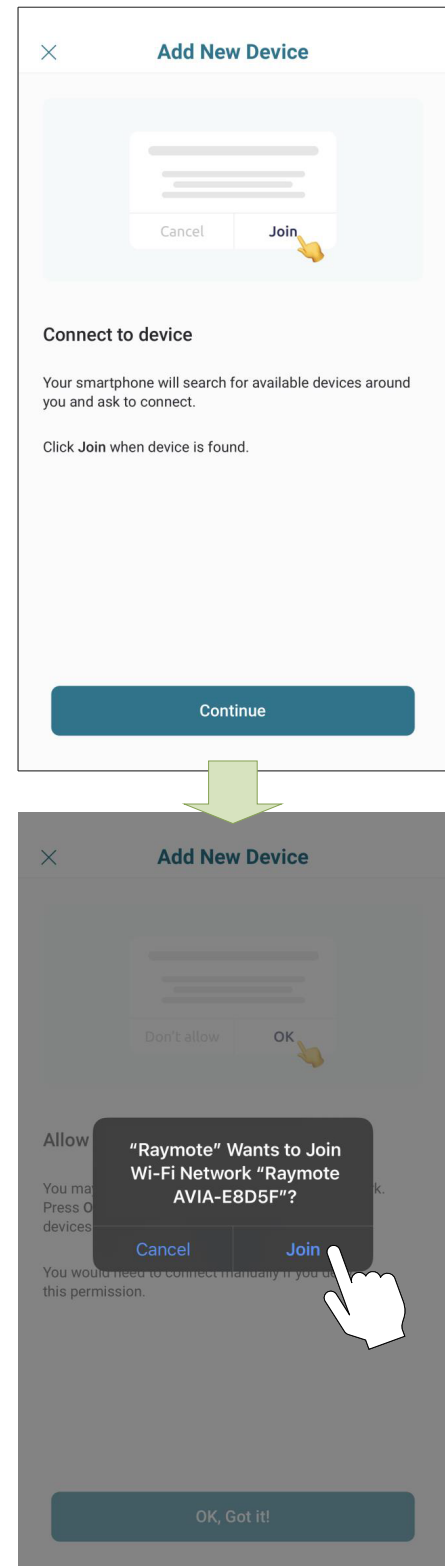

Figure 85. Connecting with iPhone
4. **In iPhone:** Raymote app will start to scan nearby Heaters. If you have multiple units ready to connect, stand closer to the unit you want to connect first. Press "Join" to select the displayed heater that matches the HOTSPOT identifier, or press "Cancel" to start the process again. See **Figure 85**.